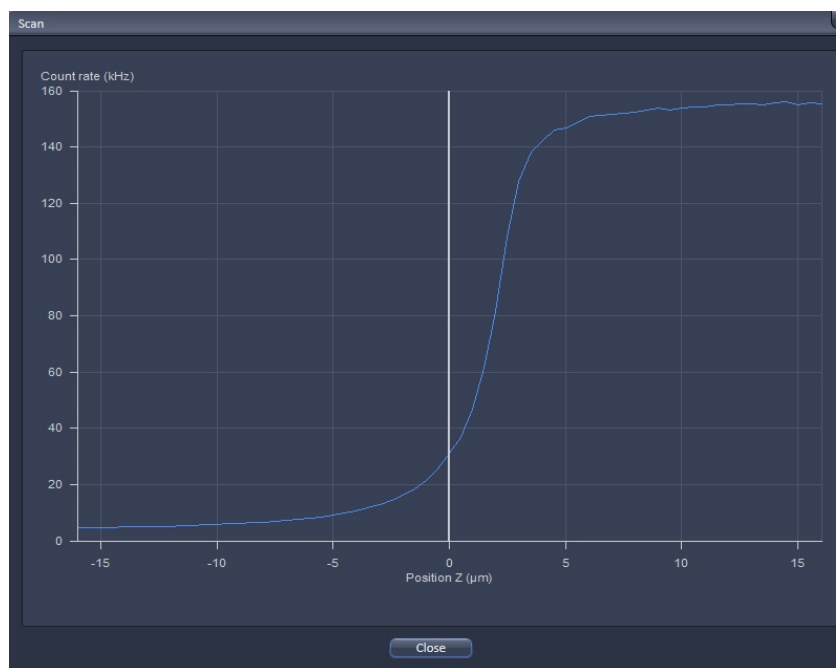

Fig. 346 Z Scan image
- Press the **xyz-Scan** FCS action button to perform a z scan. The z scan is performed and the measured intensity is displayed in dependence of the z-position (Fig. 346). The red line in the diagram shows the actual z-position. Peaks (normally two from the two lower and upper membranes) show levels of high signal intensity and may correlate to labeled membranes. Note, that if the glass surface happens to be in the z scan range it will also give a peak. To determine its position, just perform a z scan at a position where is no cell. If the glass reflection contribute so much